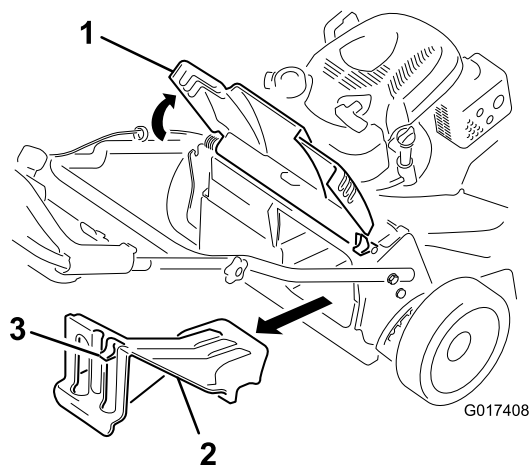

Figure 25
1. Raise and hold up the rear deflector (Figure 25).
2. Remove the rear-discharge plug by pulling down on the latch with your thumb and pulling the plug out from the machine (Figure 25).